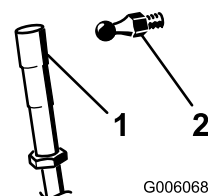

Figure 7
1. Unsnap the ball joint from each end of the new accelerator cable (Figure 7).